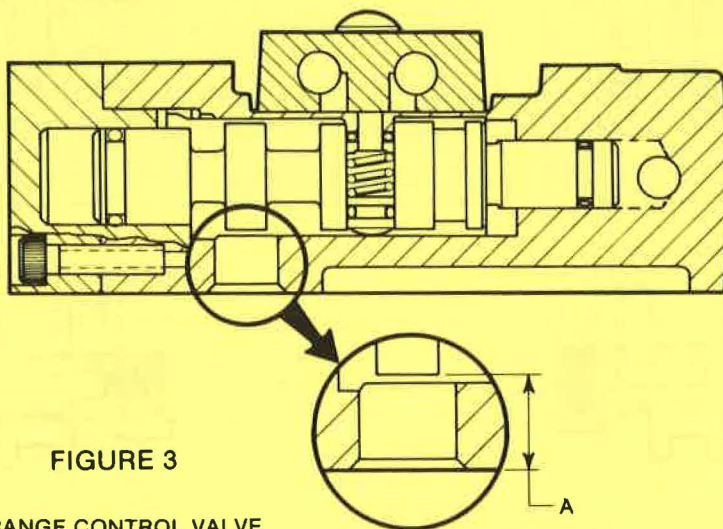

FIGURE 3
4. Using a depth gauge, measure the distance from the valve mounting surface to the piston. ("A" dimension in Figure 3).